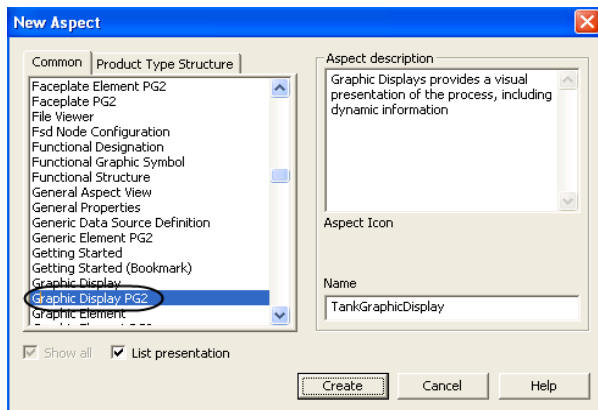

Figure 151. New Graphic Aspect
2. To create a graphic display, right-click on the object and select **New Aspect** from the context menu. The **New Aspect** dialog appears as shown in Figure 151.